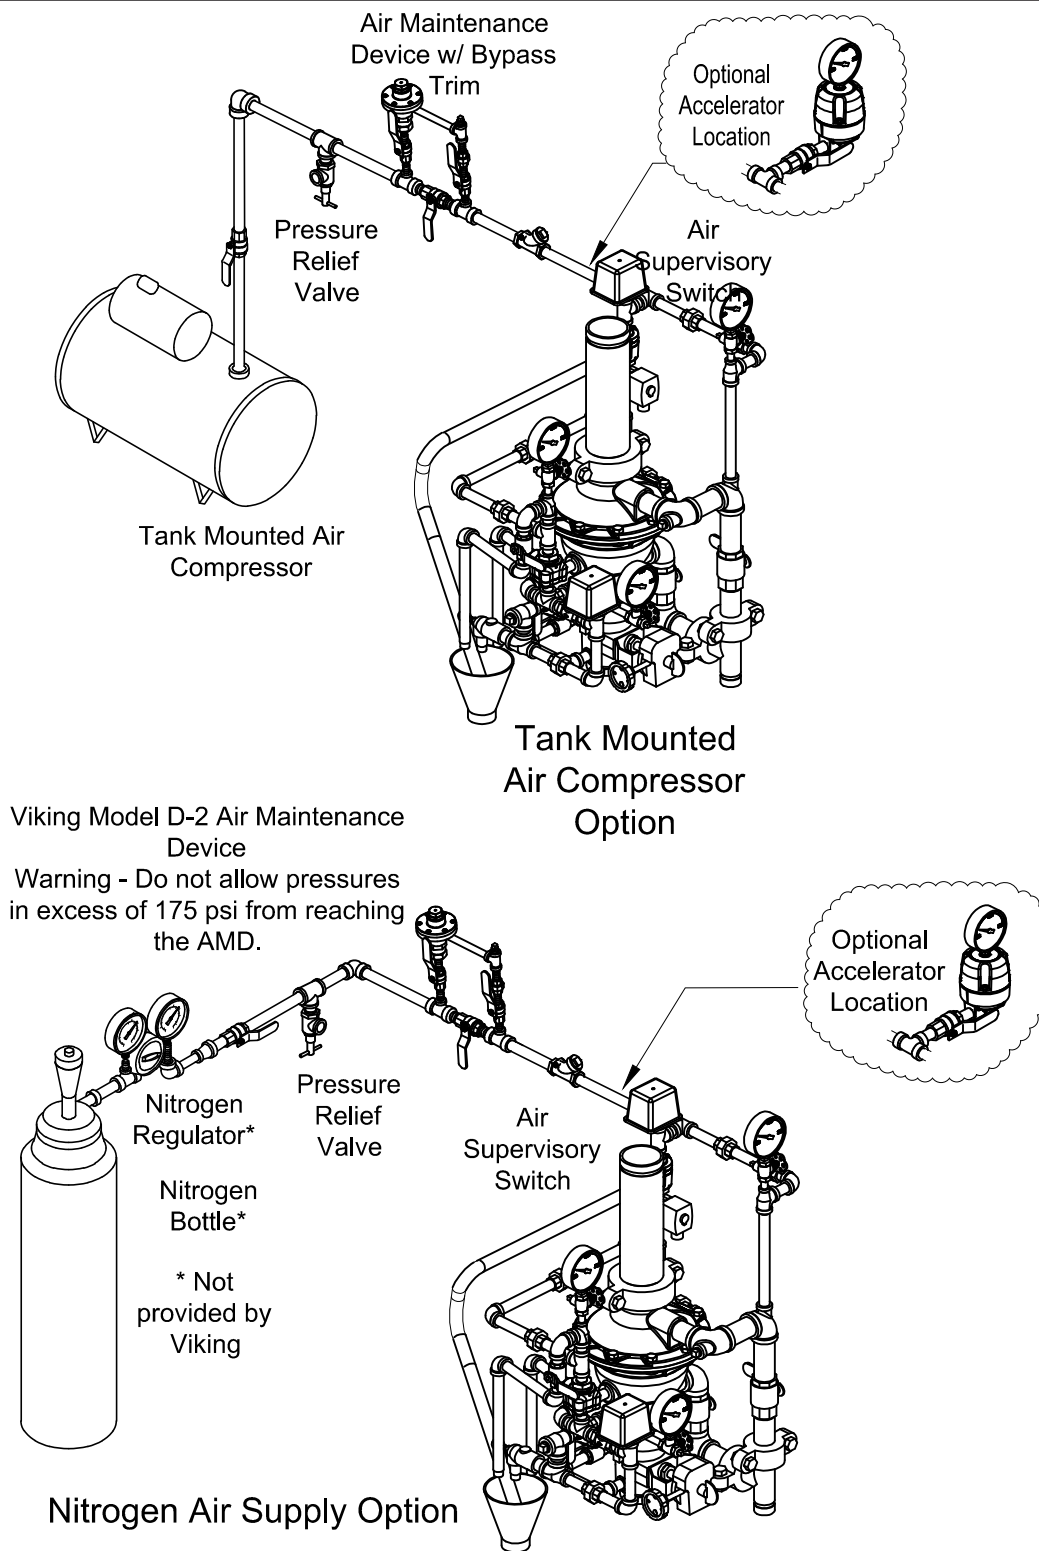

Figure 1 - Air Supply Options
4. The Viking E-1 Accelerator should be installed at the location indicated in Figure 1 when required.
2. Nitrogen Cylinder Gas Supply (See Figure 1)